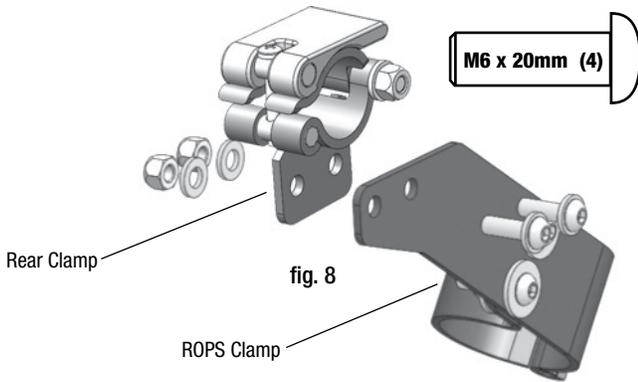

fig. 8
- 7 Using a #4 allen wrench and 10mm wrench, attach the two rear clamps (E) to the ROPS clamp (F) with two M6 x 20mm button head bolts, 4 washers and 2 nuts as shown in figure 8. The clamp lever should open towards the front of the vehicle.